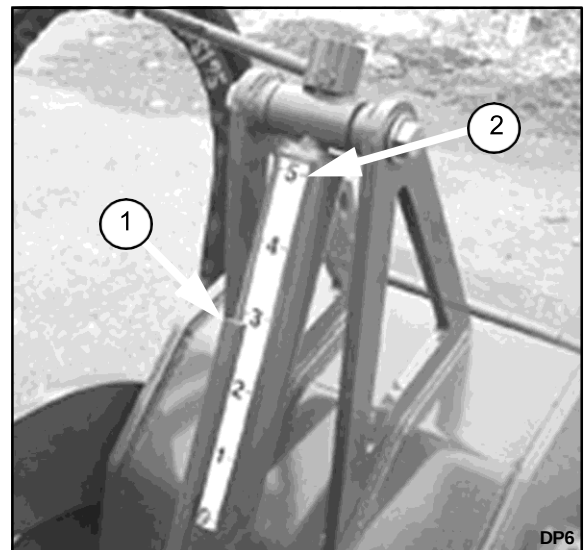

Figure 6.
4. Adjust the depth jack located at back of the planer, clockwise for increased depth or counterclockwise for lesser depth. To check the depth, use the pointer rod (1) location on the depth decal (2) as shown in Figure 6.